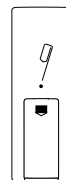

Fig. 19
- 4. Confirming the CLOSE / lowest position** Activate **learn button** on the back of the remote control **2 x** (Fig. 19) and then the **CLOSE button**. The motor confirms this input by briefly turning once in one direction. The end position closed/lowest has been successfully taught.